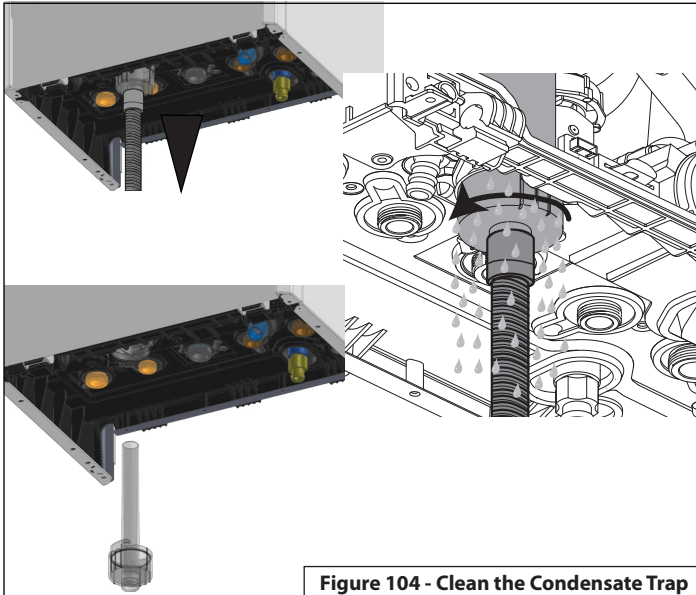

Figure 104 - Clean the Condensate Trap
- NOTE:** Ensure all parts shown in Figure 104 are installed with the boiler. If any parts are missing DO NOT operate the boiler. Replace